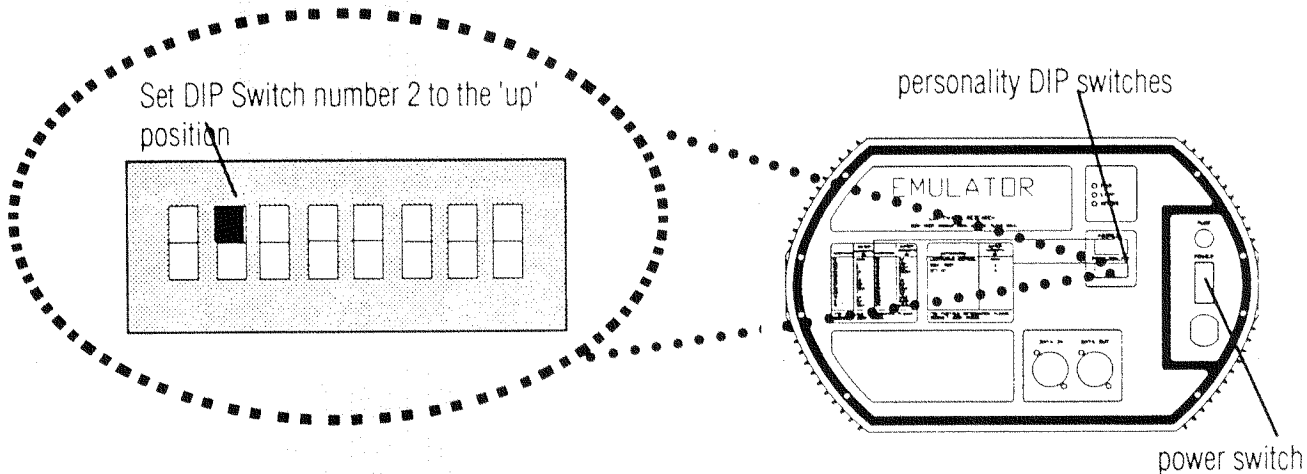

Figure 2.12 Emulator Fixture: Rear View
7. Locate the *personality DIP switches* on the rear panel of the fixture. (See Fig. 2.12) Put the fixture in 'Set Up' mode by pushing personality DIP switch # 2 to the 'on' (up) position. All of the other personality DIP switches need to be in the 'off' (down) position. (See Fig. 2.12)
9. Locate the *power switch* on the rear panel of the fixture between the power cord and the fuse. (See Fig. 2.12)